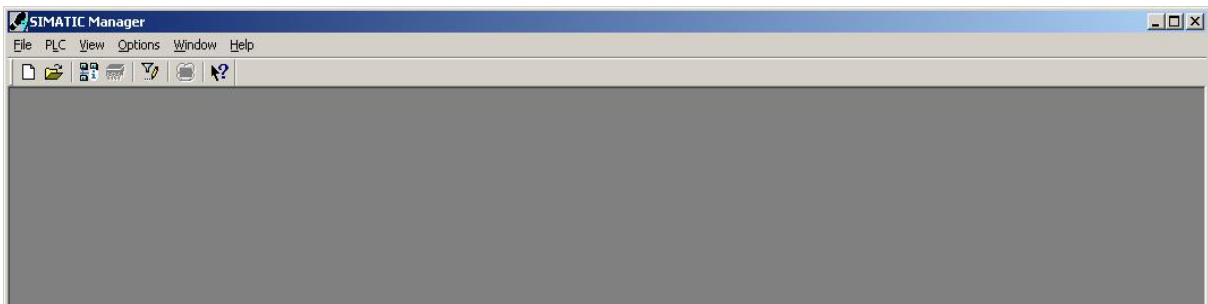

Figure 1
1. Open SIMATIC Manager  . Figure 1: